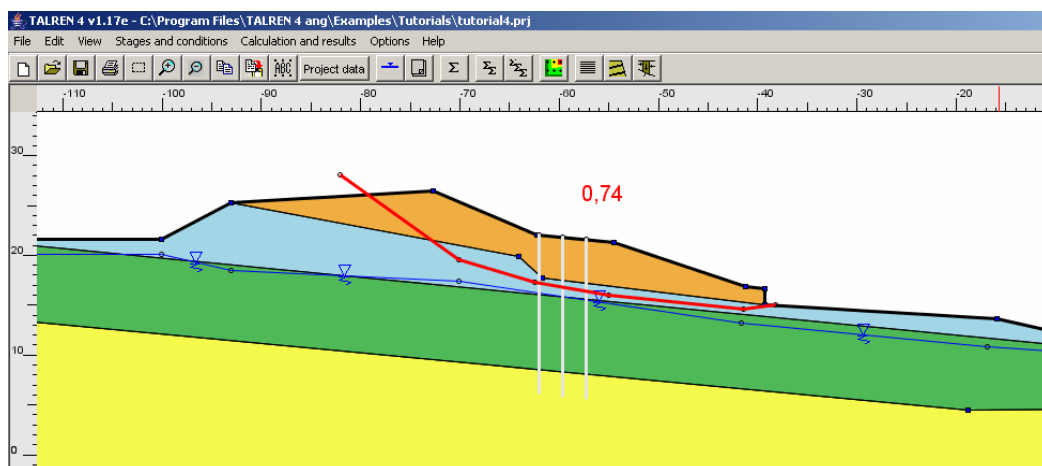

Figure 90: default output for situation 2 of stage 1
- Calculate situation 2. The result is displayed on Figure 90.